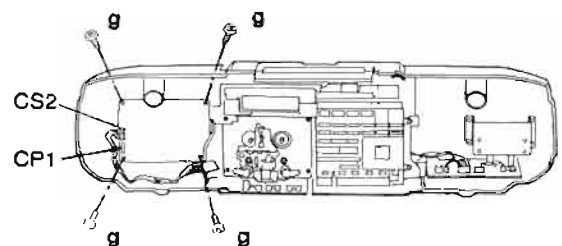

Abb. 12 Fig. 12
6. Removal of the Tuner P.C.B. (Fig. 12)